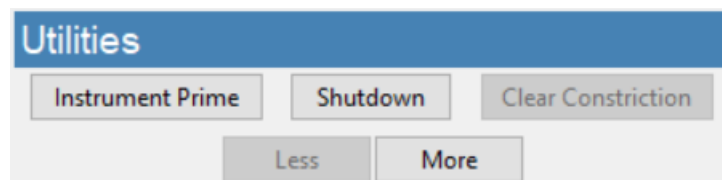

Figure 9. Utilities frame.
- Press the "Clear Constriction" button (Figure 9) and wait for the routine to complete.
- Press the “Instrument Shutdown” button (Figure 9) to begin the automated process.
- This panel is used for diagnostic purpose and troubleshooting measurement issues. It can be revealed by clicking the “More” button under the “Utilities” frame, Figure 9. Please contact Spectradyn at support@spectradynellc.com for troubleshooting tips.